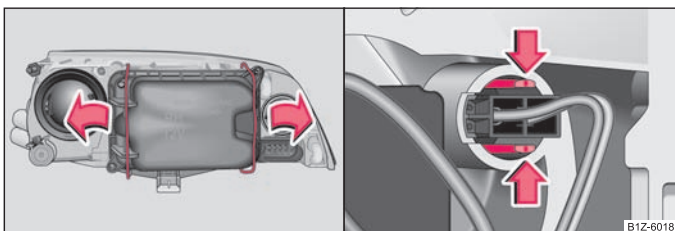

Fig. 148 Replacing the cover for the lamps of the parking- and low-beam light / removing the bulb for the parking light
- Press the wire clamps in the direction of arrow to the side and remove the cover ⇒ fig. 148 - left.
- Press the contact studs in the direction of arrow and remove the holder with the light bulb of the parking light ⇒ fig. 148 - right.